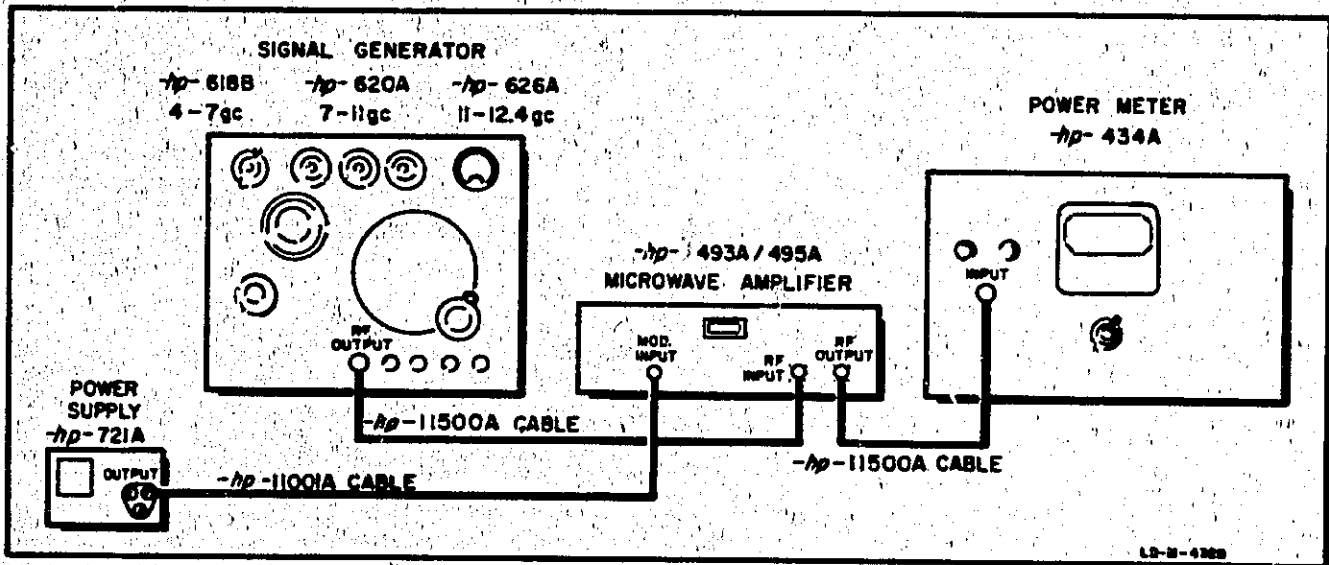

Figure 5-8. Modulator On-Off Ratio
- a. Set up the Model 493A as shown in figure 5-8 (power supply power off). Signal generator set up for a 1 mw output at microwave amplifier low power point.
- Connect the Model 493A as shown in figure 5-8, with the signal generator and the power meter at the same setting as those in paragraph 5-36 steps c and d.